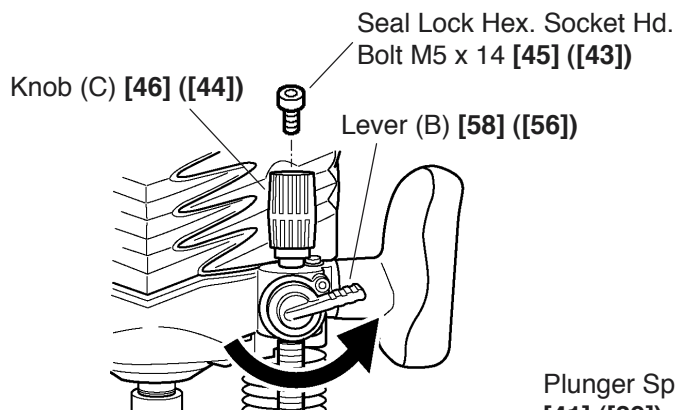
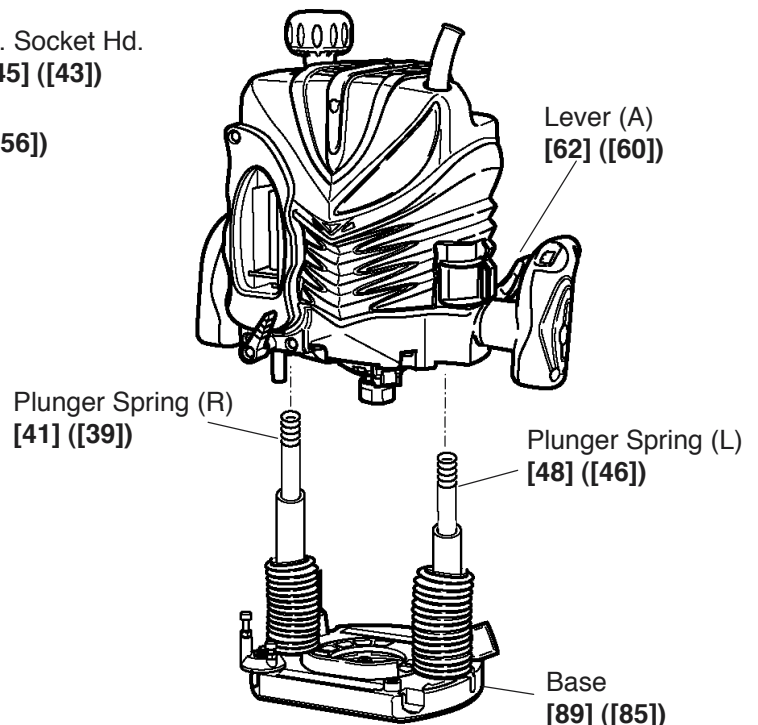

Fig. 1
Fig. 2
- (1) First, remove the bit. If further disassembly is attempted with the bit mounted on the router, it may cause damage to the cutting edges of the bit and/or serious injury to the handler.
- (2) Removal of the Base **[89]** **([85])** (Fig. 1 and Fig. 2)
- (b) Turn Lever (B) **[58]** **([56])** in a counterclockwise direction and lock Lever (A) **[62]** **([60])**.
- (c) With a 10-mm wrench and a hex. bar wrench, loosen and remove the Seal Lock Hex. Socket Hd. Bolt M5 x 14 **[45]** **([43])**, and remove Knob (C) **[46]** **([44])**.
- (d) Release Lever (A) **[62]** **([60])** and disassemble the Base **[89]** **([85])** from the main body. As Plunger Spring (R) **[41]** **([39])** and Plunger Spring (L) **[48]** **([46])** are installed within the columns of the Base **[89]** **([85])**, be sure to support the main body by firmly gripping the handle during disassembly.